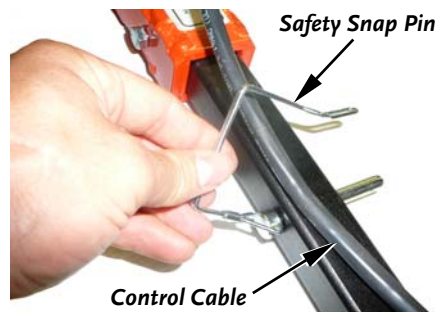

Figure 17
1. Install a Safety Snap Pin into the hole in the Tow Bar and around Control Cable (**Figure 17**).